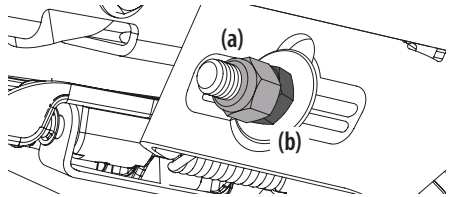

Figure 40
5. To **raise** the front of the deck, remove the end cap, loosen the outer jam nut (a) then tighten (thread inward) the inner nut (b) against the front hanger bracket. See Figure 40. When proper adjustment is achieved, re-tighten the outer jam nut (a) to 57 ft-lbs (77 N-m) and replace the end cap.
6. To **lower** the front of the deck, remove the end cap, loosen the outer jam nut (a) then loosen (thread outward) the inner nut (b), away from the front hanger bracket. See Figure 40. When proper adjustment is achieved, re-tighten the outer jam nut (a) to 57 ft-lbs (77 N-m) and replace the end cap.